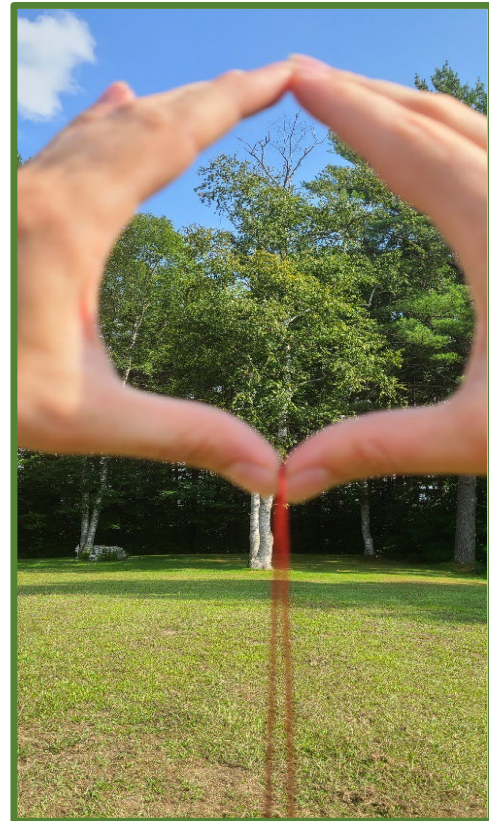

Figure 2.3.4—Determining lean using a hand-and-plumb bob combination.
- **If you use your hand in combination with a plumb bob** (figure 2.3.4), hold the plumb bob with your thumbs to eliminate visual error from the hand method.